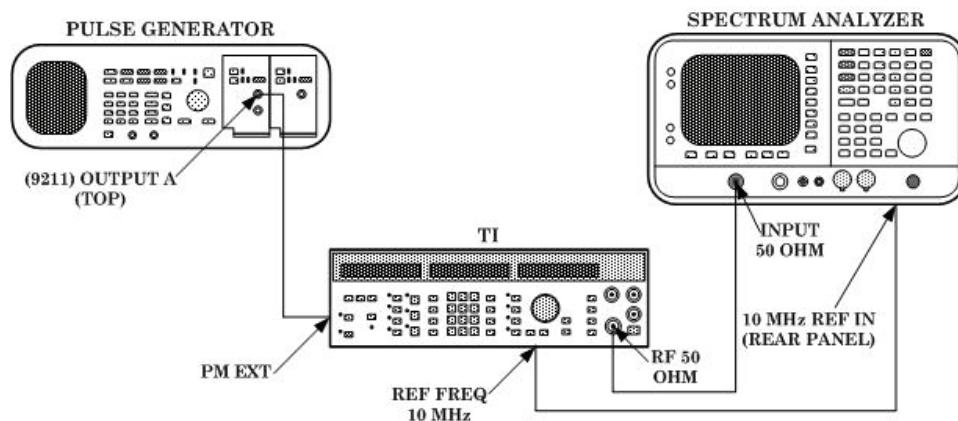

Figure 7. Pulse modulation.
(1) Connect equipment as shown in figure 7.